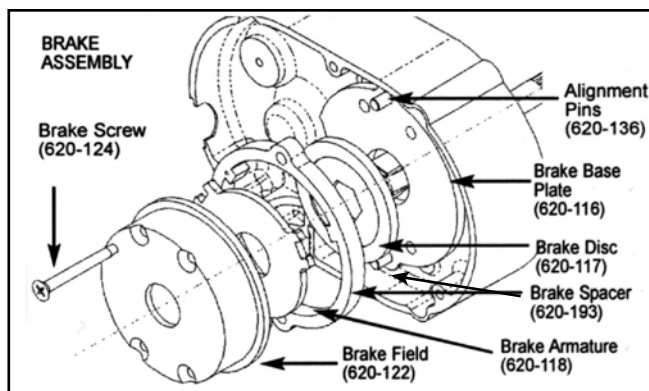

figure 8
1. Refer to Figure 8 and disassemble the brake. Depress and hold the field assembly (620-122) while removing the four brake screws (620-124). The field assembly is under spring pressure and will spring-out if not held. During disassembly, note there is a small leaf spring (620-121) on the brake driver (620-119) and this will spring-out when the brake disc (620-117) is removed. Examine the base plate (620-116), hex driver (620-119), brake disc (620-117) and armature (620-118) for excessive wear, scoring or warpage. Make sure the brake disc is not glazed, the coil firmly fixed in the field (620-122) and the brake spring (620-123) is not damaged. Worn, scored, warped, glazed or damaged parts should be replaced before proceeding.